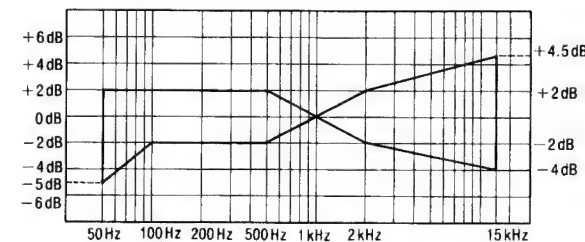

Fig. 10
8. Assure that the level is within the range shown in **Fig. 10**.